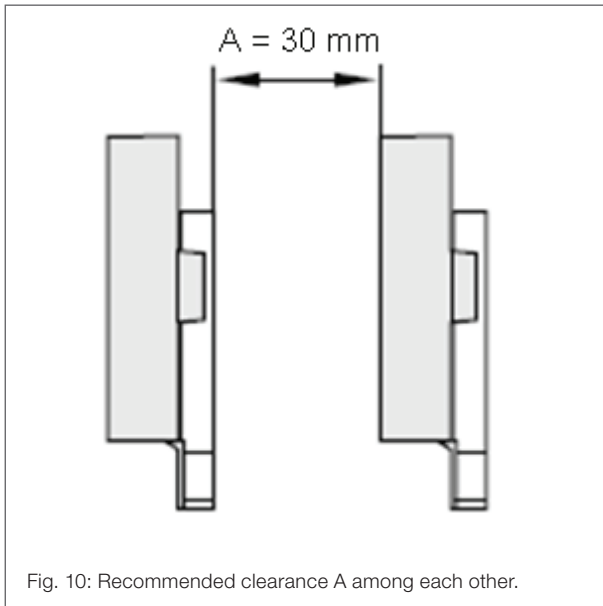

Fig. 10: Recommended clearance A among each other.
- For multiple sensor arrangements, it is recommended to place the sensors including their current feeds with a clearance (A) of at least 30 mm to each other as shown in Fig. 10. A smaller distance may cause cross talk to adjacent sensors. The primary current feeds in the PCB may not to be routed underneath a sensor.